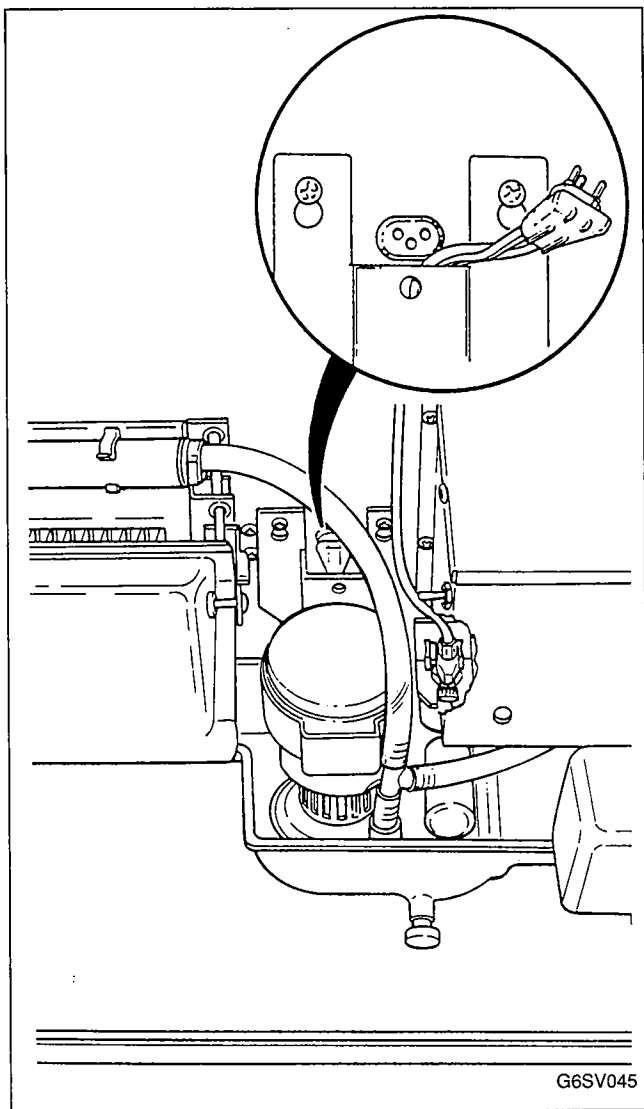

FIGURE 45. WATER PUMP CHECK
2. Unplug the water pump, Figure 45.
3. Set ICE/OFF/WATER PUMP switch at WATER PUMP and check voltage at water pump electric plug receptacle, Figure 45.